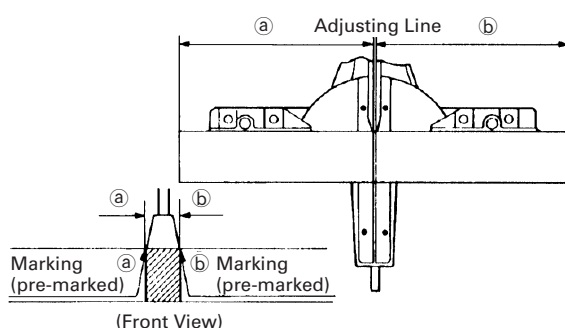

Fig. 21
- (1) As shown in Fig. 21 the width of the saw blade is the width of the cut. Therefore, slide the workpiece to the right (viewed from the operator's position) when length ⑥ is desired, or to the left when length ⑤ is desired.
- (2) Once the saw blade reaches maximum speed, push the handle down carefully until the saw blade approaches the workpiece.
- (3) Once the saw blade contacts the workpiece, push the handle down gradually to cut into the workpiece.
- (4) After cutting the workpiece to the desired depth, turn the power tool OFF and let the saw blade stop completely before raising the handle from the workpiece to return it to the full retract position.